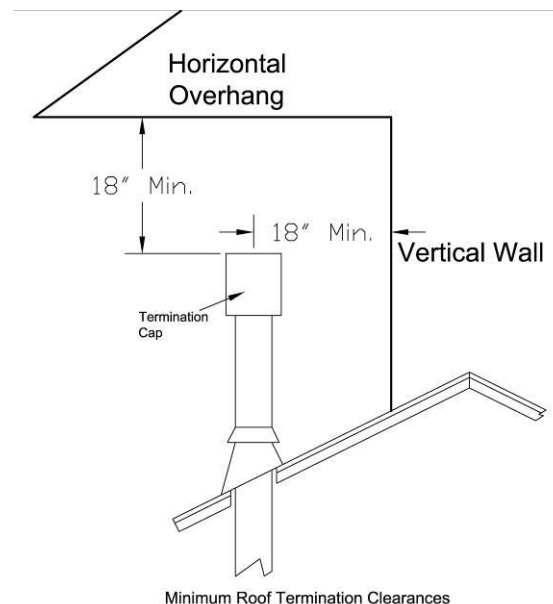

Figure 8 - Termination Cap clearances
- 🔥 All termination caps must be no less than 18" (457mm) horizontally from any roof or vertical surface. See Figure 8.
- 🔥 The termination must fall within the area shown in Figures 8 & 12.
- 🔥 All horizontal terminations must also comply with the clearance specifications to adjacent structures outlined in Figures 8 & 12.